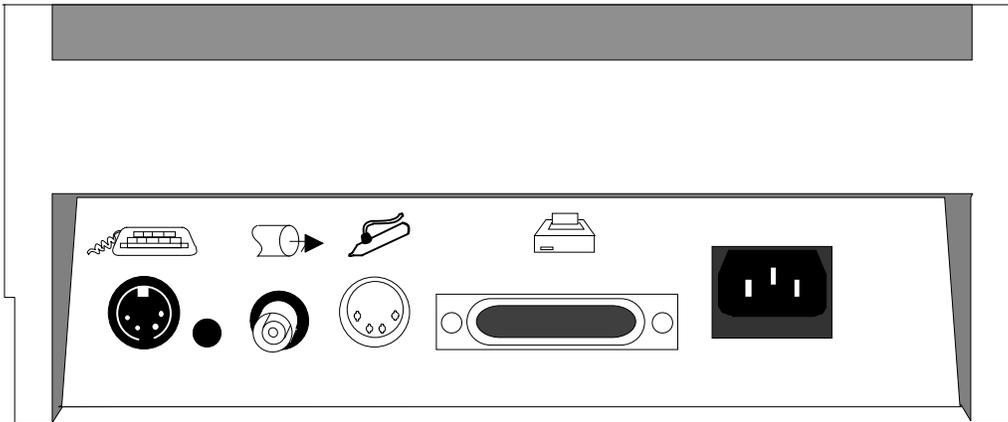

Figure 2-4. 1481 Receptacle Connectors
- 2) Insert the light pen's cable connector into its 4-pin receptacle on the rear of the display cabinet. Check to ensure that the connector is firmly seated. Figure 2-4 shows the location of the light pen cable connector's receptacle.
- 2) Place the keyboard in front of the Display/Logic element. Pull out the feet underneath the keyboard to adjust it to a higher setting, if desired. Insert the keyboard plug into the receptacle on the back of the Display/Logic element. See Figure 2-4 for the keyboard plug receptacle location.
- 3) Attach the printer cable (provided with your printer) to the connector on the back of the Display/Logic element as displayed in Figure 2-4.
- 5) Plug the power cord into the power receptacle on the back of the Display/Logic element (see Figure 2-4).
- 2) Align the end of the connector cable with the Dual Purpose connector on the back of the Display/Logic element (see Figure 2-4). Connect the cable and secure it in place by turning the retaining ring clockwise until it is tight.